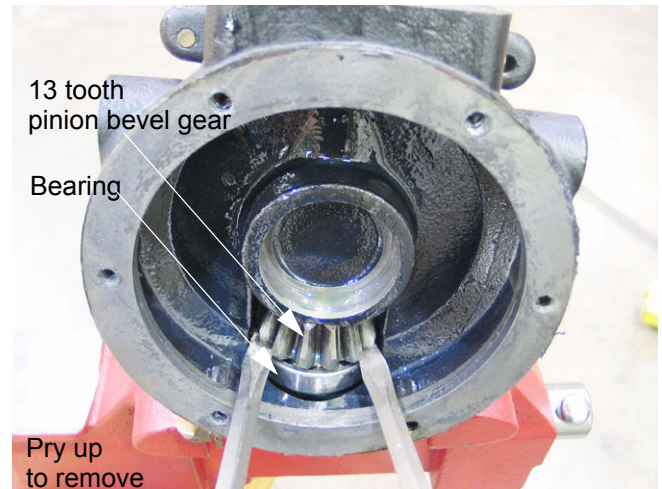

Figure 8.11
- 8.11. Carefully pry the gear and bearing out of the bore at the base of the drop axle housing. See Figure 8.11.